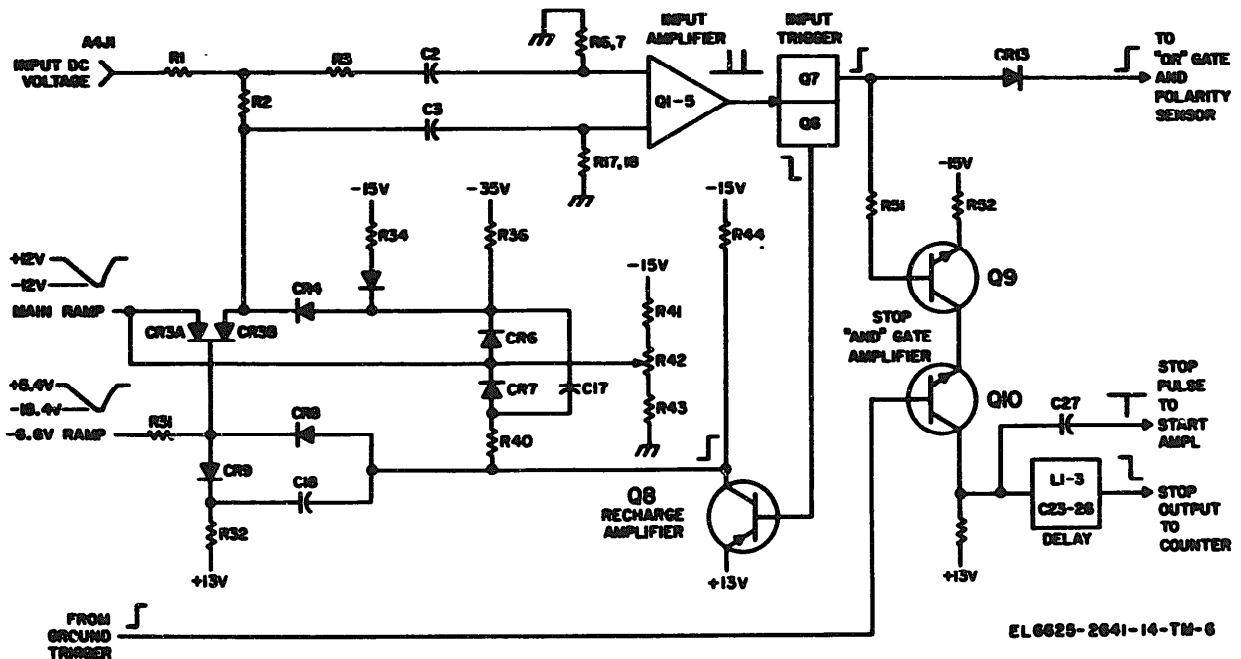

Figure 4-3. Recharge circuits, schematic diagram.
(1) The recharge circuit (fig. 4-3), acts to restore the charge removed from the input circuit during input comparison pulse generation which maintains a high input impedance. The simplified circuit of figure 4-3 illustrates the equivalent circuit for the recharge action. Capacitor C17 is the recharge capacitor, and C3, together with stray circuit capacity is the capacitance to be charged.
(2) When the timing multivibrator starts the comparison cycle, C17 is charged to 3 volts, recharge amplifier Q8 is off, and capacitor C3 is charged. As shown in figure 4-3, C17 is connected between -15 and -12 volts. When the main ramp voltage reaches the level of the input dc voltage, diode CR3B conducts, C3 discharges through CR3B and initiates a negative pulse at Q2 base. The output of the input amplifier at Q5 collector is
c. *Stop "AND" Gate Amplifier.* Stop AND gate amplifier Q9 and Q10 (fig. 4-3) is a transistorized AND gate which closes the Counter gate after both comparators have fired. A stop square wave output results when both Q9 and Q10 conduct. Q9 is enabled by the positive-going input trigger square wave from Q7 collector. Q10 is enabled by the positive-going ground trigger square wave from A5Q6 collector. Since both Q9 and Q10 are in series, current through both transistors occurs only when both are enabled. Therefore, the stop output occurs only when the second or last positive-going square wave enables the second transistor. The stop pulse is applied through C27 to the base circuit of start amplifier A6Q9 to hold it off during the stop pulse. The stop square wave at pin 18 is supplied to the Counter via pin 22 of J6 and causes the gate flip-flop to close the Counter gate. (Note that the stop pulse to the Counter passes through the delay line consisting of L1, L2, and L3, and C23 through J26. This delay corresponds to the start pulse delay.) This gate closing terminates the totalizing action of the Counter binaries and the displayed count corresponds to the digital voltmeter input dc voltage.